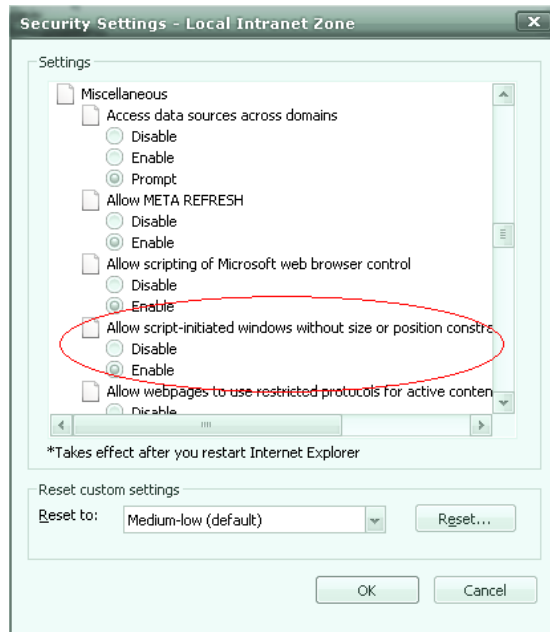

Fig. 5.6
3.Modify permission setting- Enable local directory path when uploading files to a server as figure 5.6.